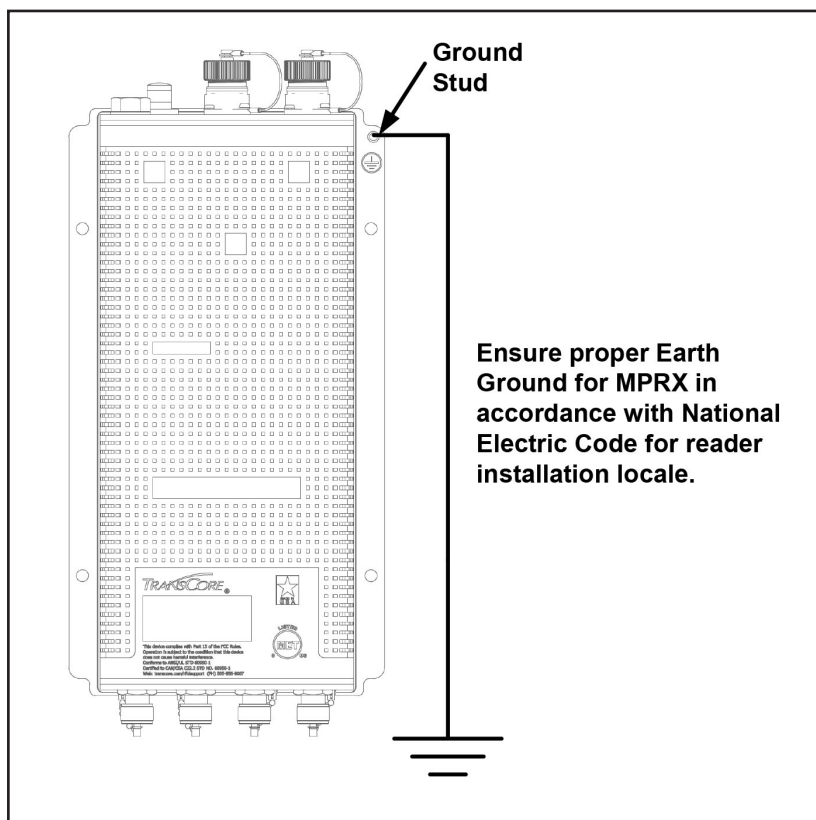

Figure 12 Location of MPRX Ground Stud
1. Connect the MPRX to Earth Ground. Figure 12 shows the location of the MPRX ground stud.